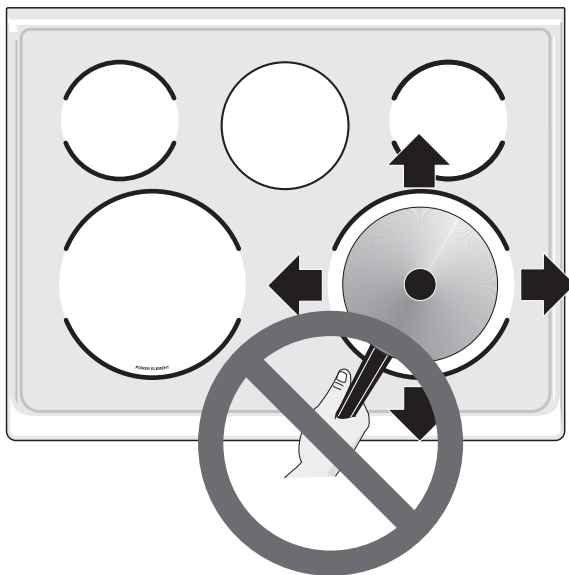

Figure 13: Cooktop care
4. Push the door hinge locks up toward and into the oven frame on both left and right oven door hinges to the locked position (Figure 13).